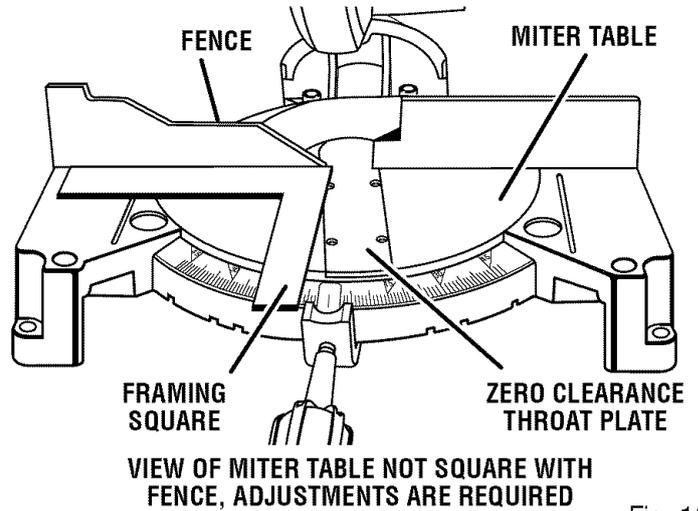

Fig. 16
- If the edge of the framing square and the zero clearance throat plate in the miter table are not parallel as shown in figures 16 and 17, adjustments are needed.